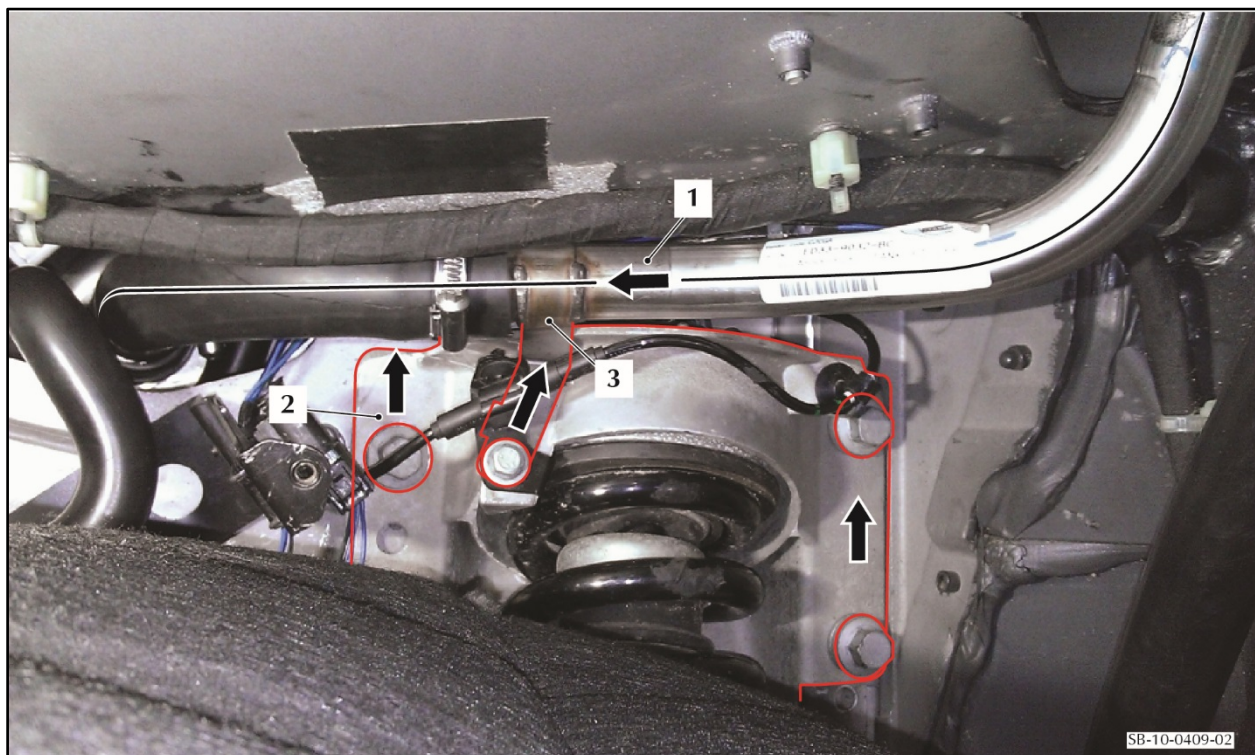

Figure 2
4. Make sure that the external tank filler neck (1) has a constant downward gradient. To do this, make sure that the damper casting (2) is in the highest position. Also make sure that the fuel filler neck to damper casting (3) is in the highest position (refer to Figure 2).